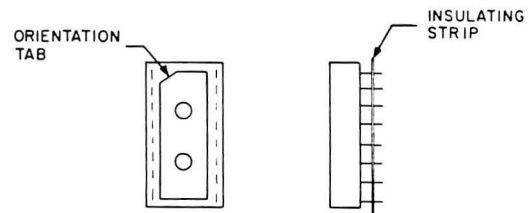

Figure 4-3. Socket Orientation.
Examine one of the sockets and refer to figure 4-3. At one corner of the socket frame, there is a tab which will be used for orienting the integrated circuit (IC) when installing the IC into the socket. The socket should be installed on the PCB so that this tab corresponds to pin 1 as shown on the Components Layout Drawing. Looking at the underside of the socket, you will notice two insulating strips laid over the socket pins. When installing the socket, set the pins into the PCB holes and press firmly to seat the insulating strips against the base of the socket.